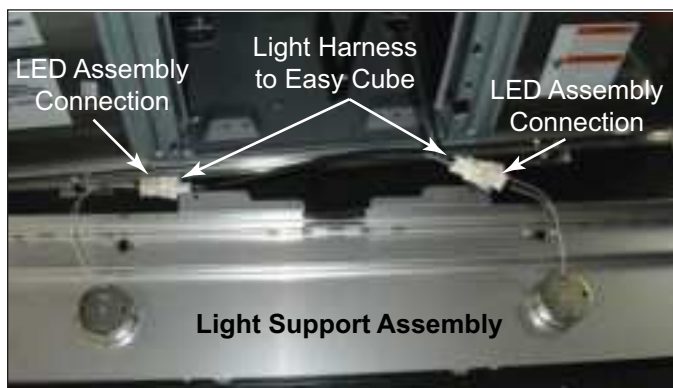

Figure 4-9. Lighting Connection on Light Support
- Disconnect two pin Lighting Harness from LED Assembly connection. (See Figure 4-9).